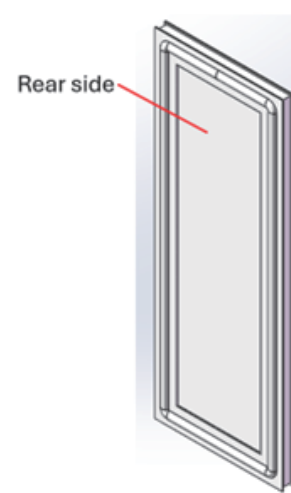

Figure 8
3. Take out the old filter cotton from the rear side of the filter cotton frame and install a new one. Make sure the filter cotton is laid flat and closely attached to the front wire mesh, with the printed side of the filter cotton facing the wire mesh, see Figure 8.